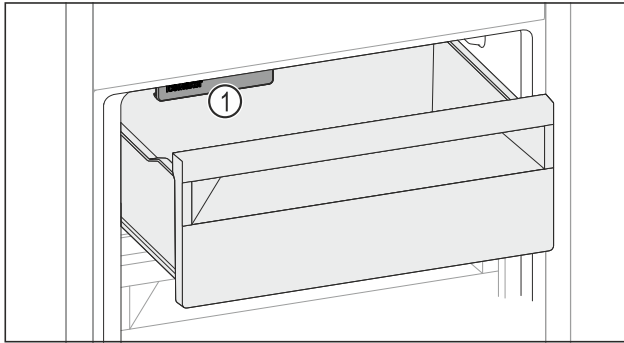

Fig. 223
- ▶ Watch out for the IceMaker Fig. 223 (1).